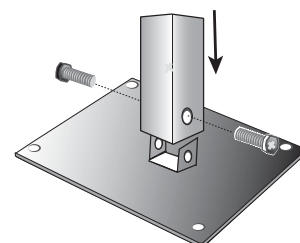

Figure 2
3. Attach the Bottom Mounting Plate (the flange with the wider space) to the Outside Pole with two Round Head Philips 1/4-20 x 3/8 Screws. In a similar manner, attach the remaining Plate to the Inside Pole. Refer to figure 2.